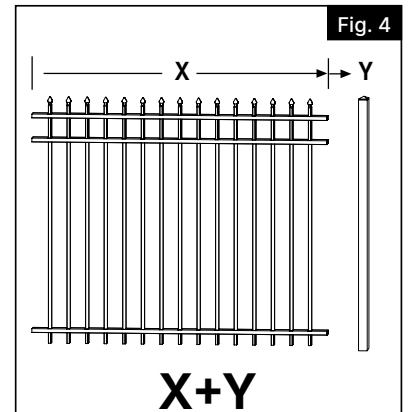

Fig. 4
Measure the width of the fence panel (X) plus the width of the post (Y). This is the common center-to-center measurement (unless there is a cut-down panel) for post hole location (Fig. 4).
After concrete has set, fasten the fence section to the posts using #8 x 1" self-tapping screws (Fig. 4).